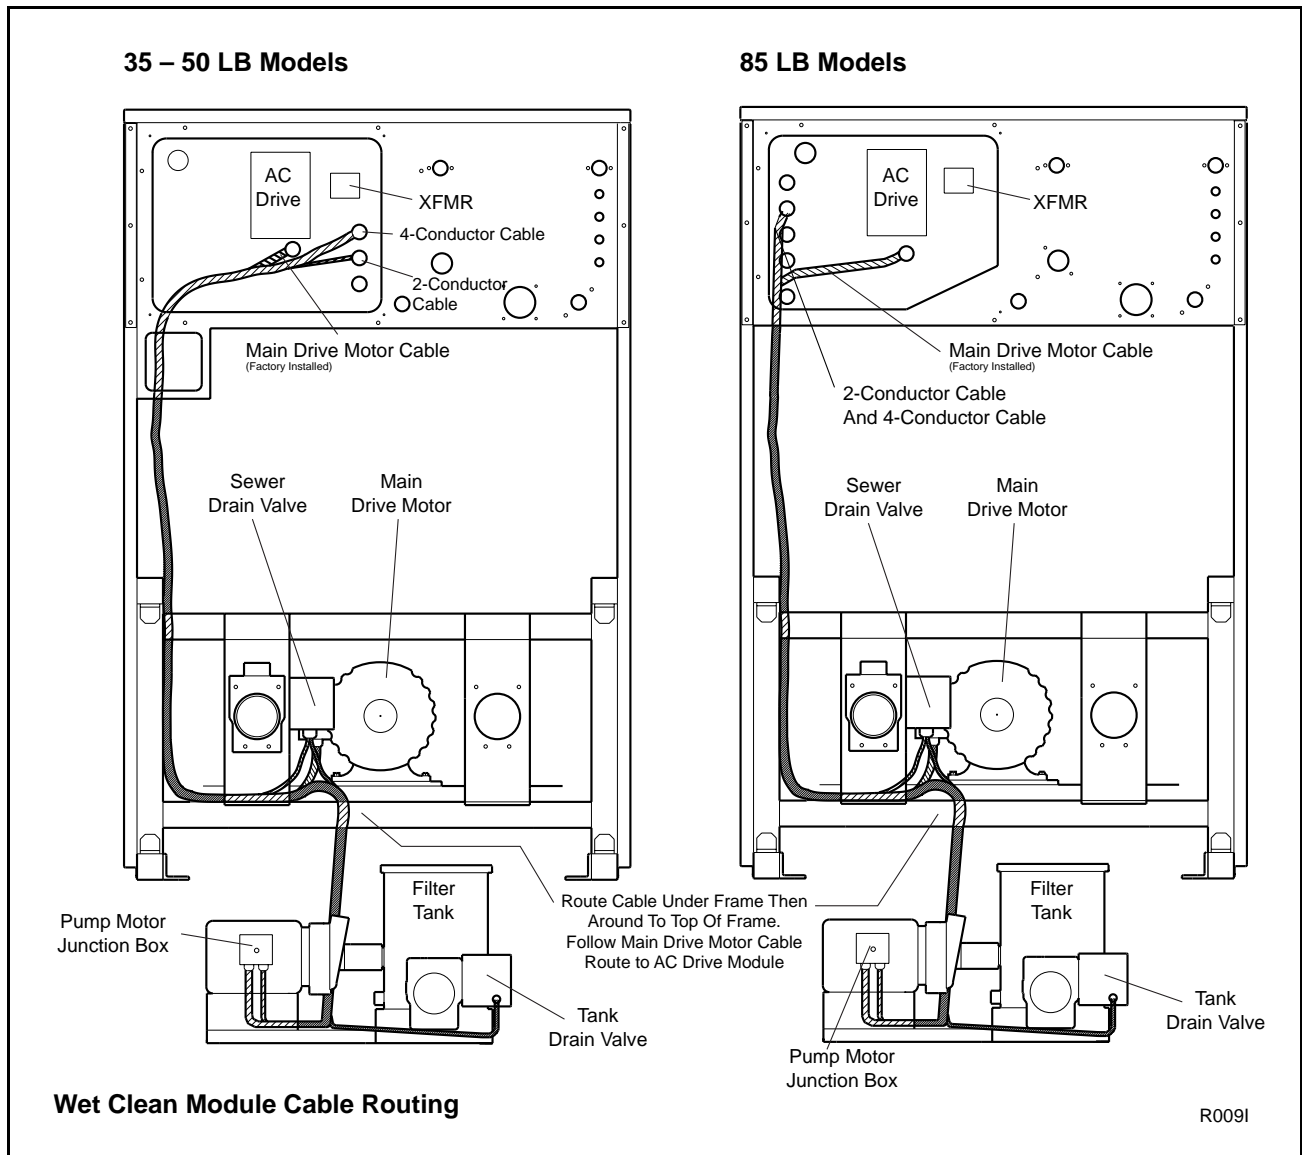

Figure 25
- c. Route 4-conductor and 2-conductor cables along the frame of the washer-extractor, following the same routing as the main drive motor cable. Allow sufficient clearance between the cables and any moving parts of the washer-extractor. See Figure 25.
Note: Route cables underneath the frame as shown in Figure 25.